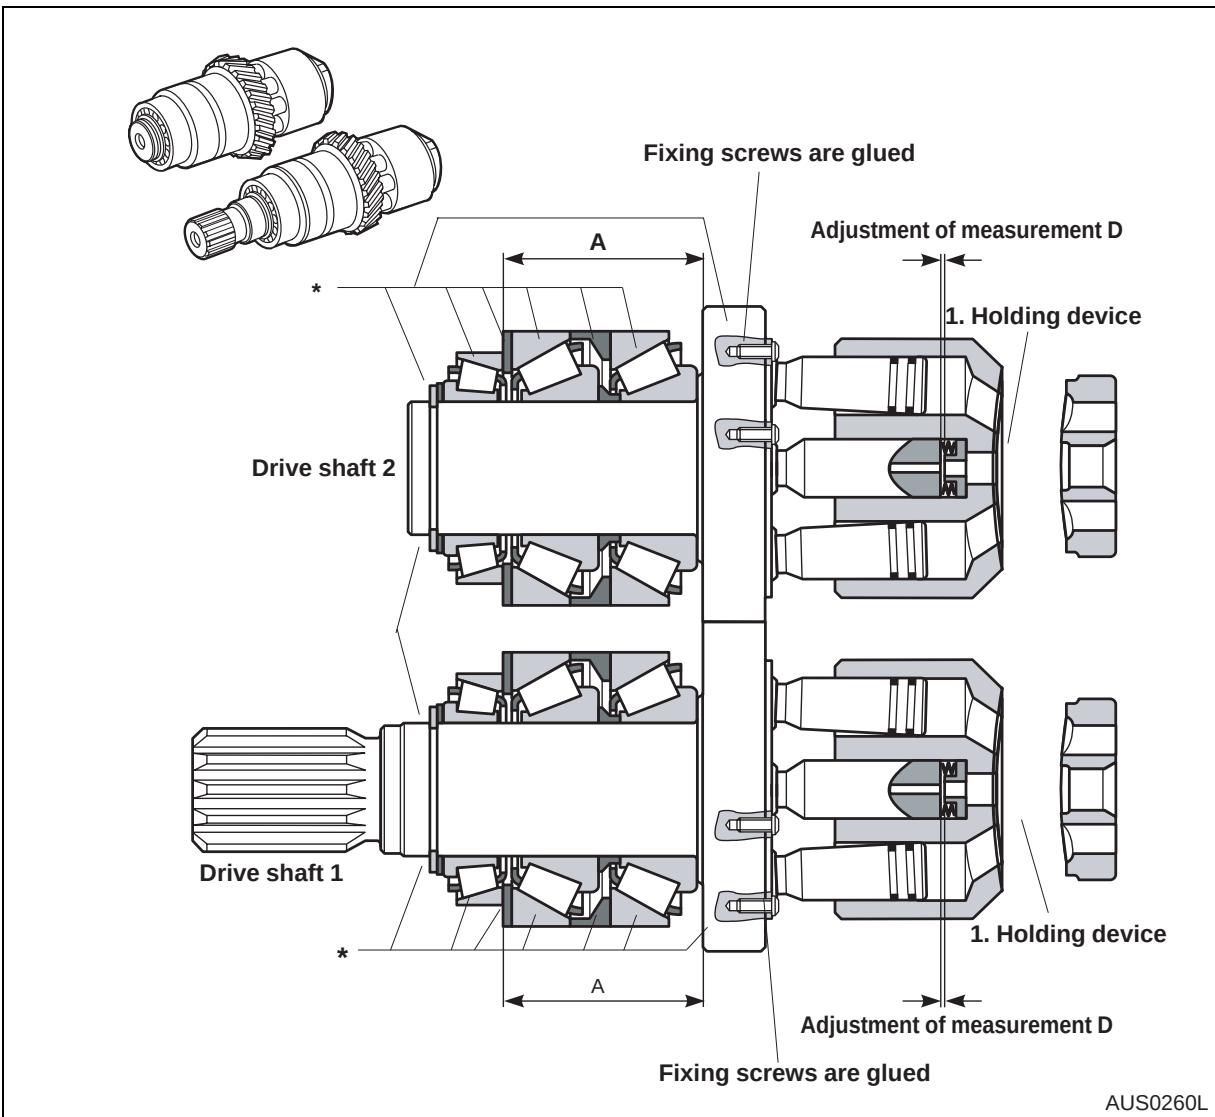

**Figure 54**
3. Note disassembly position: (1, 2 and 3, Figure 54).